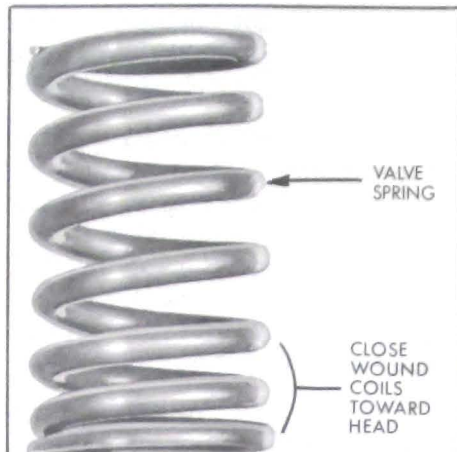

Figure 2-26—Valve Spring
12. Lube with "Service MS" engine oil and reinstall valves, valve springs, caps and cap retainers, using same equipment used for removal. Install valve spring with closely wound coils toward the cylinder head. See Figure 2-26.